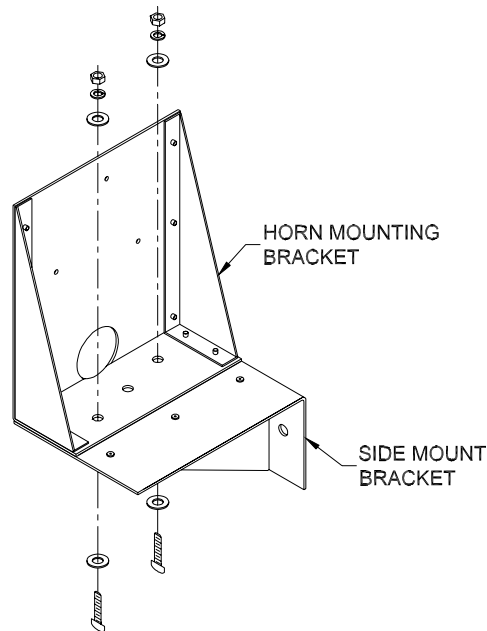

Figure 11 Side Mount Bracket Removal
6. The horn mounting bracket has a side mount bracket attached. If the horn is going to be mounted on top of the scoreboard, remove the side mount bracket as seen in figure 11.